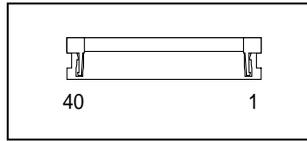

Figure 2.5.5 Connector appearance figure for LCD interfaces
CN7 is a connector for LCD interfaces. Please use it according to the specification of LCD which the user adopted. The connectors currently used are 40 FLH-SM1-TB (LF), and (SN) (made from the J.S.T. Mfg Co.,Ltd) The appearance figure of the connector for LCD interfaces is shown in Fig. 2.5.5, and signal arrangement is shown in Table 2.5.5.